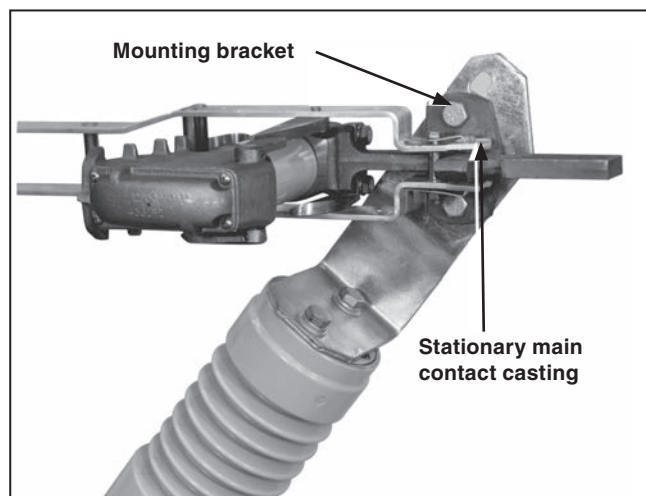

Figure 44. Adjusting the stationary main contact casting position.
- (f) It also may be necessary to loosen the bolts that fasten the stationary main contact casting to its mounting bracket and slightly rotate the casting to achieve the necessary clearances. See Figure 44. Retighten the bolts, making sure the blade engages the stationary contact on-center.